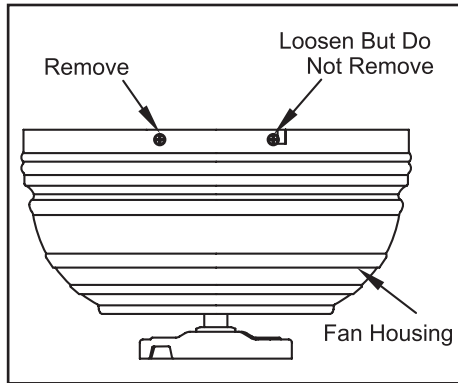

Figure 8
1. Remove the two screws on two diagonal sides from the top of the mounting plate and loosen the other two screws (Figure 8).